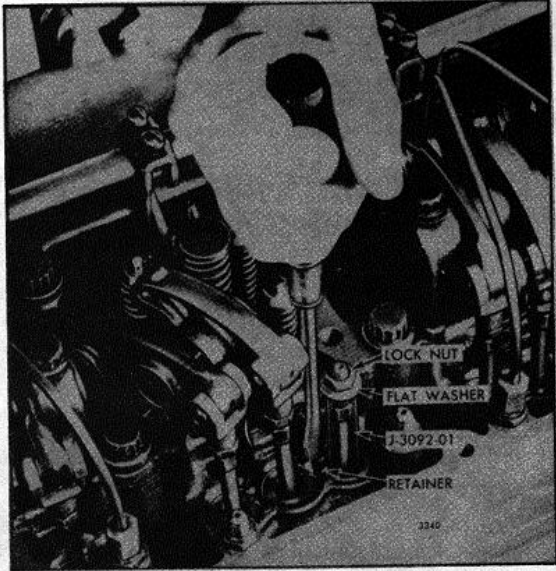

Fig. 3 - Removing Push Rod from Upper Side of Cylinder Head with Tool J 3092-01
A push rod, push rod spring, spring seats and cam follower may be removed from the top of the cylinder head by using tool J 3092-01 as shown in Fig. 3.
5. Install the remover J 3092-01, a flat washer and nut on the push rod (Fig. 3). Screw the nut down on the end of the push rod to compress the push rod spring.